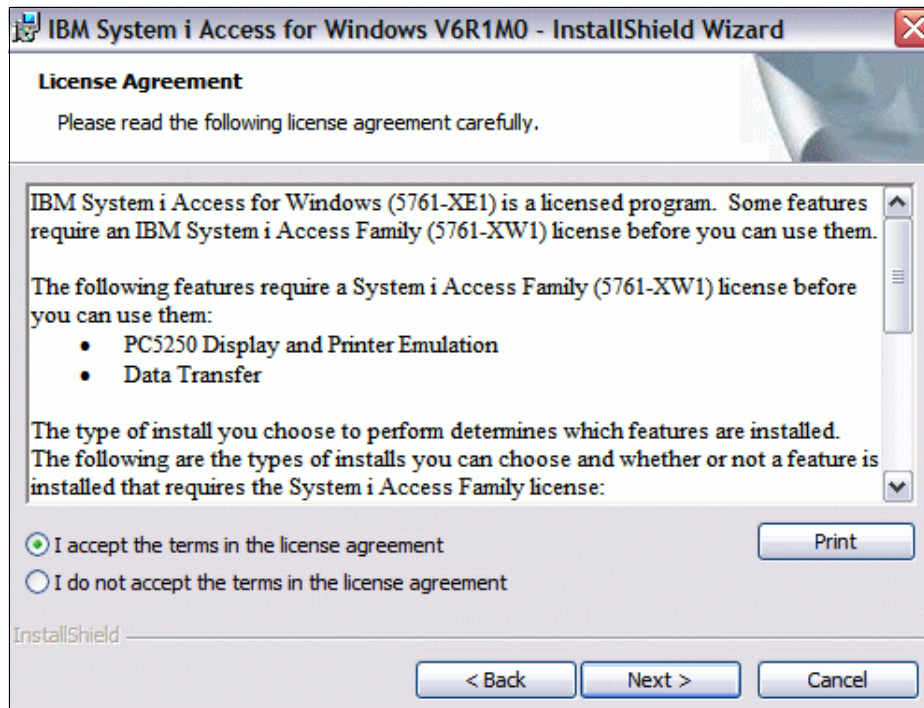

Figure 7-12 IBM System i Access for Windows Licence Agreement
3. The License Agreement shown in Figure 7-12 on page 263 appears. You can select **I accept the terms in the license agreement**. Click **Next** to continue.